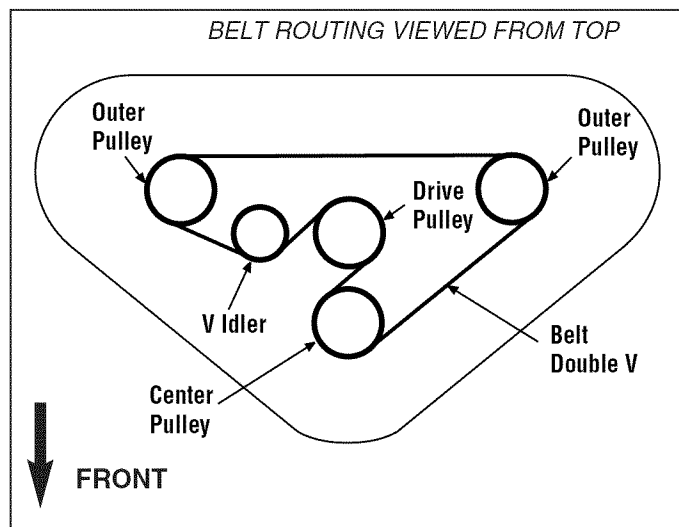

Figure 48. Mower Belt Routing
4. Remove the old drive belt (D).
7. Install the new drive belt as shown in the diagram in Figure 48.